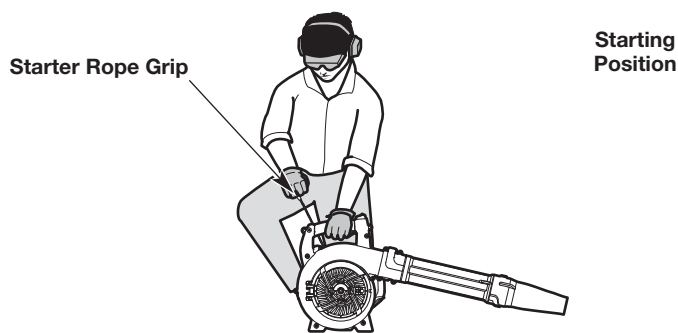

Fig. 7
WARNING: Avoid accidentally starting the unit. To avoid serious injury, the operator and the unit must be in a stable position when pulling the starter rope (Fig. 7).
5. **DO NOT** squeeze the throttle control. Crouch in the starting position (Fig. 7).
6. **DO NOT** squeeze the throttle control. Pull the starter rope with a controlled and steady motion 3 to 5 times to start the engine (Fig. 7).